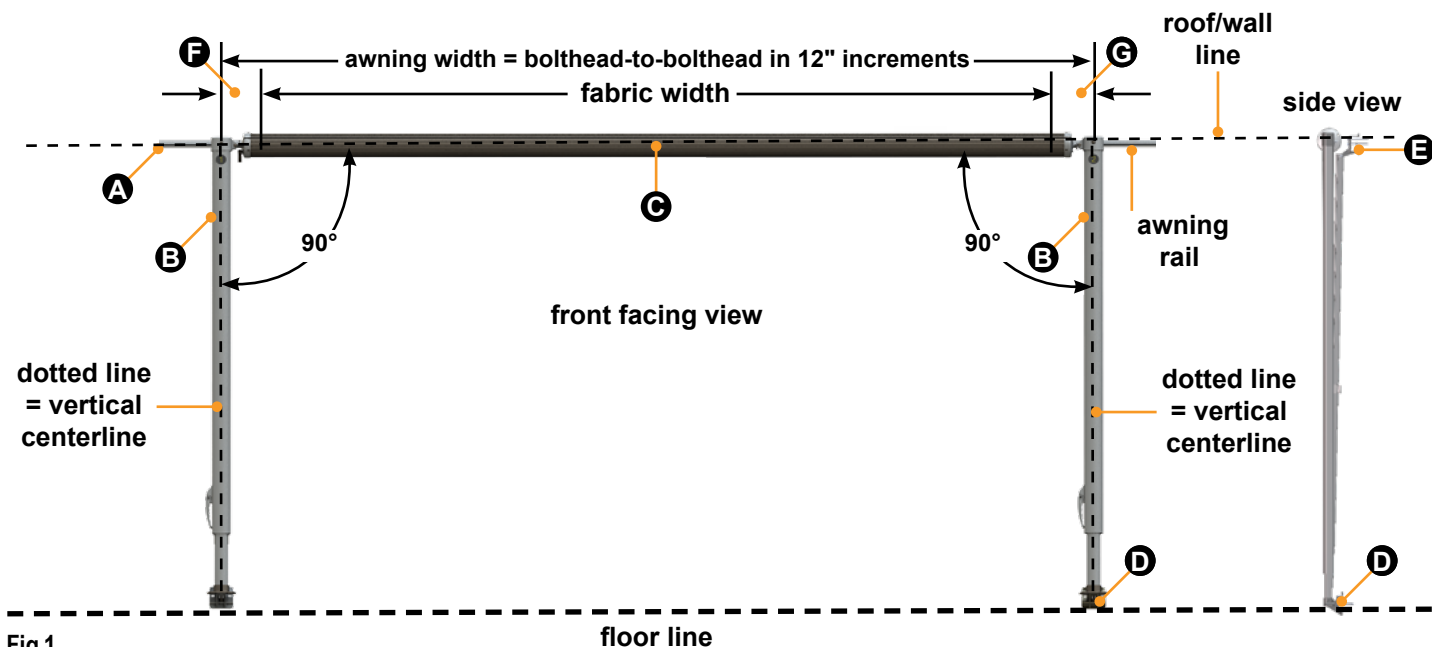

Fig.1
A. Sidewall Mounting - Position the awning rail along the line where roof and wall meet, or a minimum of 4" above doors or windows (Fig.1).
B. Pop Top Mounting - Position the awning rail above the line where roof and wall meet (Fig.1).
NOTE: The awning rail must be level and parallel with the floor line of the unit (Fig.1).
4. Measure and confirm the width of the awning. The distance is measured from centerline of support arm assembly to the opposite centerline of the other support arm assembly (Fig.1).
2. Using a non-permanent method of marking, mark a perpendicular line from the mark on the awning rail down to the floor line. This is the centerline of the support arm assembly (Fig.1). Do this for both support arm assemblies.
2. Make sure the roll tube centerline is level with or slightly higher than the awning rail centerline (Fig.1). The bottom of the roll tube **MUST** not be higher than the awning rail.